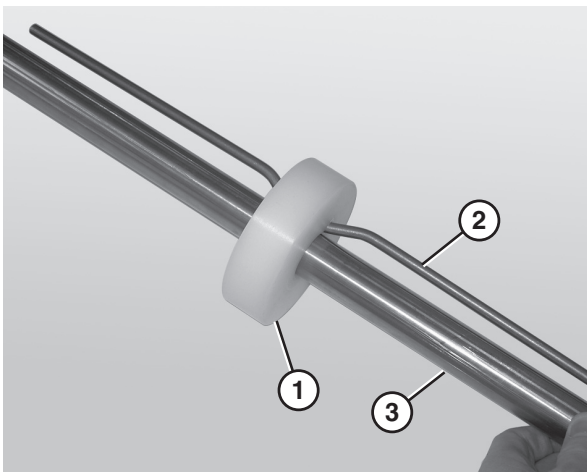

Figure 75
1. Place the idler puck (Figure 75, item 1) at the center of the bent retaining bar (Figure 75, item 2).
2. Slide the idler puck onto the idler shaft (Figure 75, item 3). Make sure to center the idler puck.